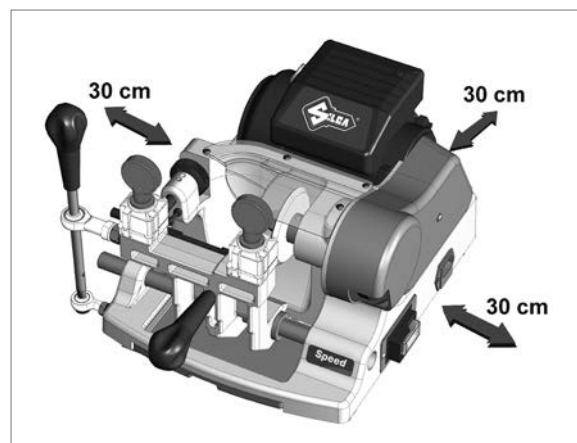

Fig. 8
- it is important to leave clearance of at least 30 cm behind the machine and on each side to ensure proper ventilation (Fig. 8).